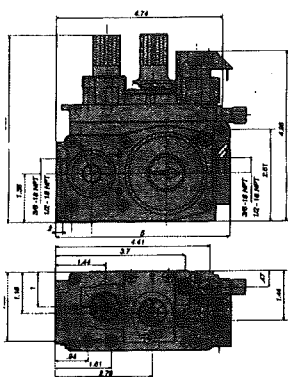

FIGURE 9. SIT GAS VALVE
The **38BVM** is equipped with a remote-operated valve, located behind the removable brass grille, to the right of the gas control valve (refer to figure 9.) The valve is pre-wired and completely self contained to generate its own power **DO NOT** connect any external power to it. **Note:** The switch location must not exceed 30' from fireplace.
The gas control valve is located behind the brass trim in the centre of the fireplace (see Figure 9). Before lighting the pilot, make sure that the gas line is connected and the **gas shut-off valve** is turned to the ON position.
1. Remove Pilot Adjustment Cap. (see figure 9 or 10)
- Have the fireplace installation inspected yearly, including a visual check of the vent system, the burner and the pilot flame. For your convenience a 1/8" manifold pressure tap is supplied on the gas valve for a test gauge connection. See Figure 9 or 10.